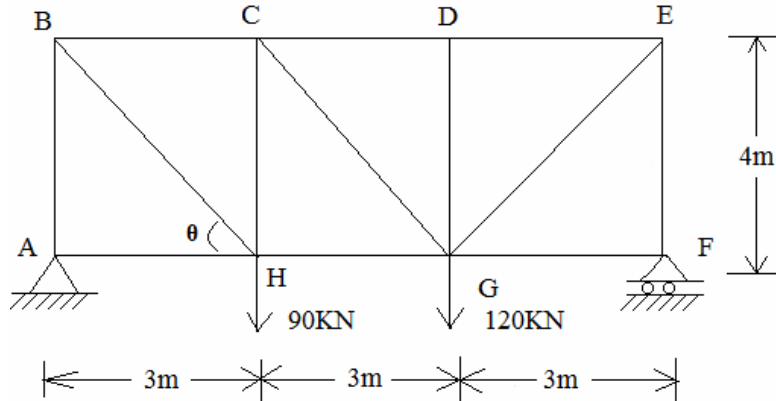

Fig.3
5. Analyse the truss shown in Fig.3, by Method of Joints.